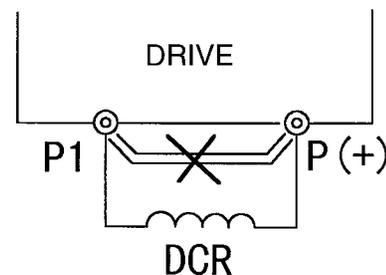
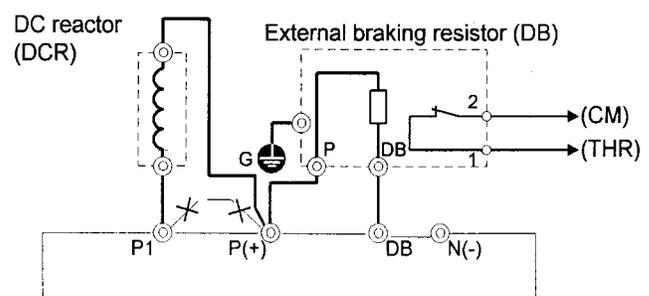

Fig. 2-3-3
Fig. 2-3-4 Connection (6KF11L062, 6KF11H025 and below)
2. When you need to connect source type logic, refer to Basic Connection Diagram Fig. 2-3-3 and Fig. 2-3-4 and Technical Information Manual. (Sink Logic is commonly used in the USA and Source Logic is commonly used in Europe.)
**(5) Others**